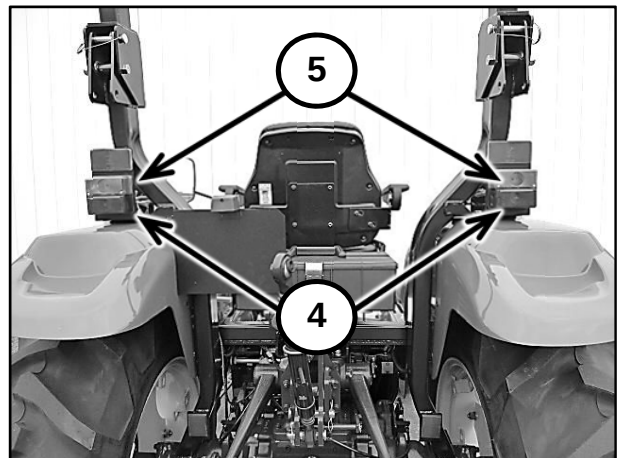

Figure 2-15
- Side and Taillights / Brake Lights (4) in Figure 2-15.
- Flasher Warning Lights / Turn Signals (5) in Figure 2-15.